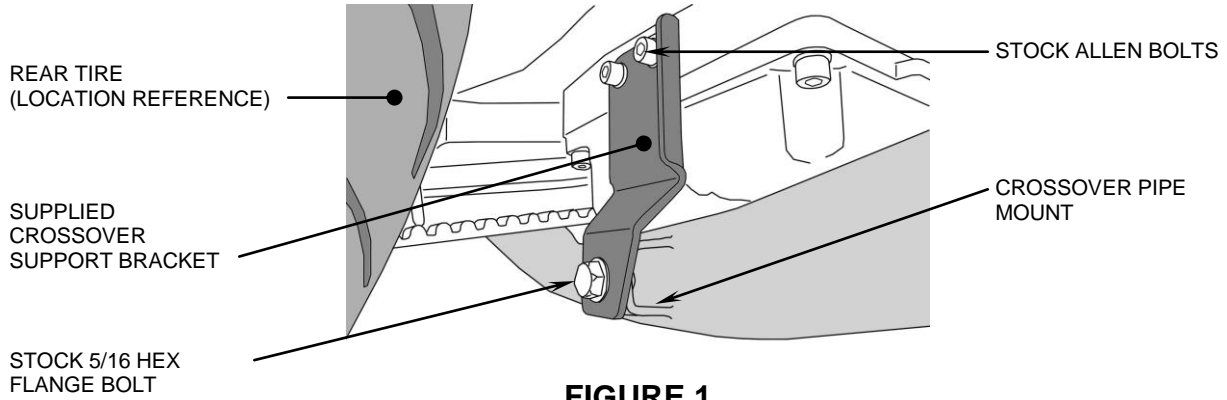
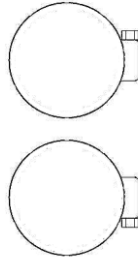

FIGURE 1
FIGURE 3B
3. Unplug the (2) O₂ sensors on the front and rear headpipes from motorcycle wire harnesses.
4. Remove the stock crossover headpipe support bracket by removing the (2) stock allen bolts located on the backside of the transmission pan underneath the motorcycle. Remove the 5/16 hex flange bolt that fastens the bracket to the exhaust pipe. Save all (3) bolts for later use but discard the bracket. See Figure 1 for location.
12. Install the supplied crossover support bracket to the stock mounting location, described in Step 4, using the (2) stock allen bolts removed in Step 4 and tighten. Adjust the crossover pipe assembly for and aft so the welded mount rests flush against the support bracket, then align the holes and fasten with the stock 5/16 hex flange bolt removed in Step 4. See Figure 1. Make sure the crossover pipe has clearance and does not make contact with the transmission pan; adjust as needed while bolts are loose.
13. Reinstall the mufflers onto the crossover pipe assembly using the stock muffler clamps. Reinsert the (2) stock 5/16-inch bolts into each rear muffler mount. **Do not tighten** clamps or bolts.
14. Tighten the 5/16 hex bolt and (2) allen bolts on the crossover support bracket, then fully tighten the flange nuts on the exhaust port studs, followed by the 3/8" carriage bolt and nut on the front headpipe support clamp. Next fully tighten the (2) 27-61MSC clamps.
15. Remove heatshields and hose clamps from packaging. Unscrew the hose clamps and feed the tail end of the clamps through the clips on the inside of the heatshield so the screws are accessible with a screwdriver once the heatshield is installed. See Figure 3B for clamp alignment.